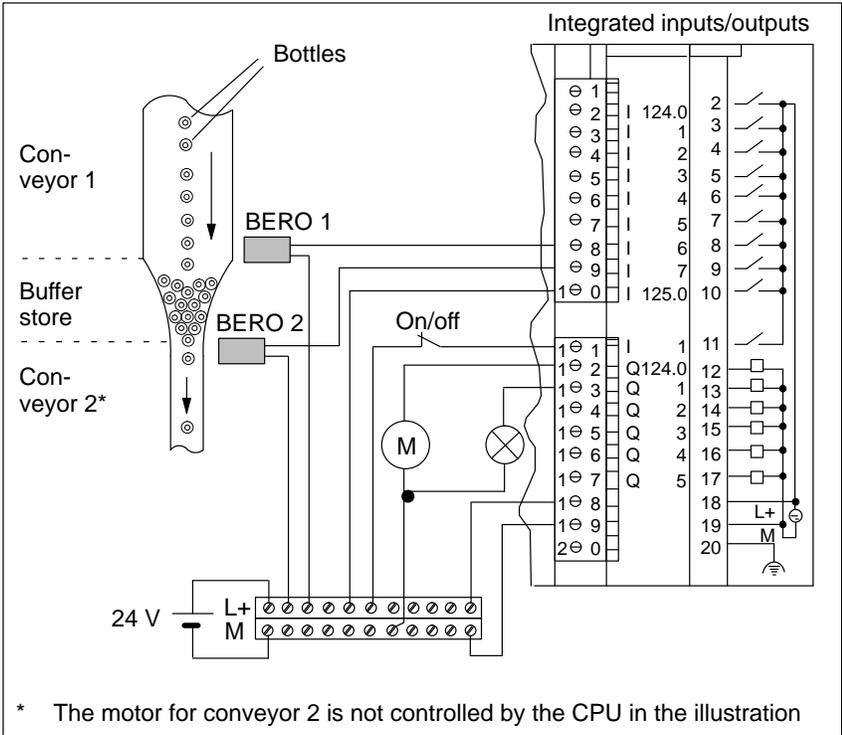

Figure 4-14 Differential Counting
**Wiring** The technology and wiring of the differential counting process are shown in Figure 4-14.